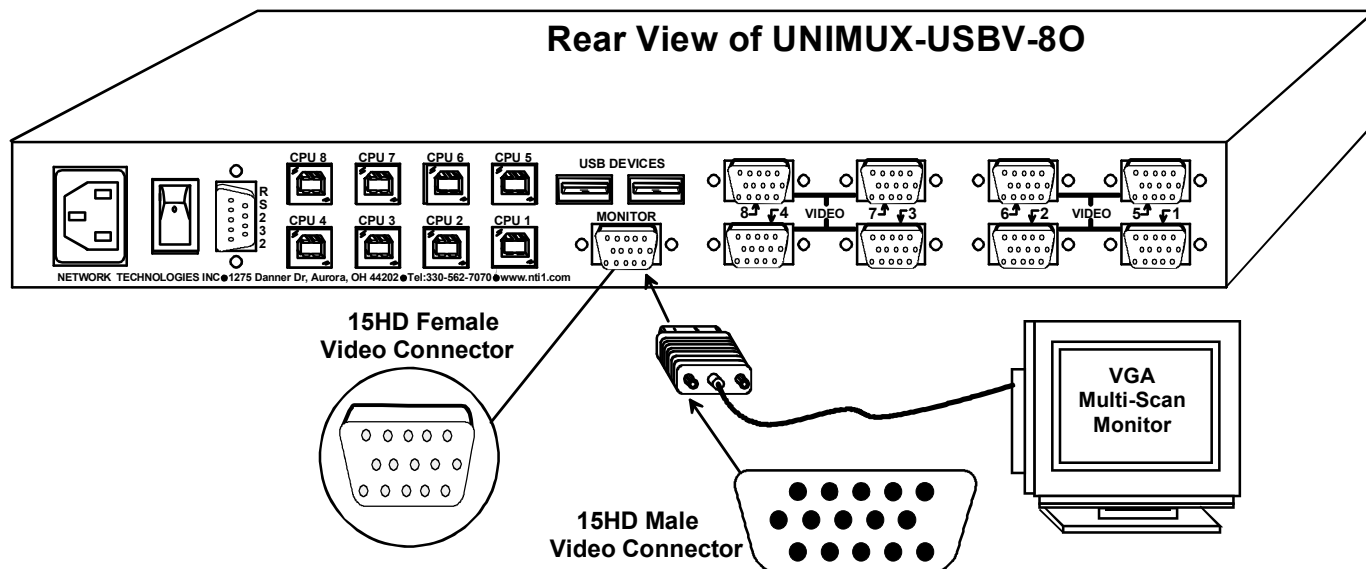

Figure 3- Connect a VGA multi-scan monitor
2. Connect the cable from a VGA multi-scan monitor to the 15HD connector labeled "MONITOR" on the UNIMUX (See Fig. 3 below.)